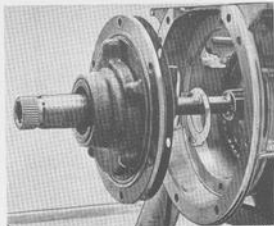

Fig. 4-125. Installation sequence, front pump assembly, thrust washer and gasket
20. Stick on the thrust washer with vaseline and then fit the pump with a new gasket on the transmission case, see Fig. 4-125. Re-check the axial play in accordance with point 21, page 4:37.